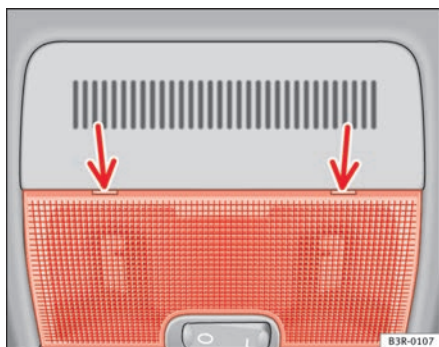

Fig. 81 Details of headliner: Points for applying screwdriver
- Carefully insert the flat end of a screwdriver (from the car's tool kit) at the rear of the glass cover on the interior light ⇒ fig. 81.